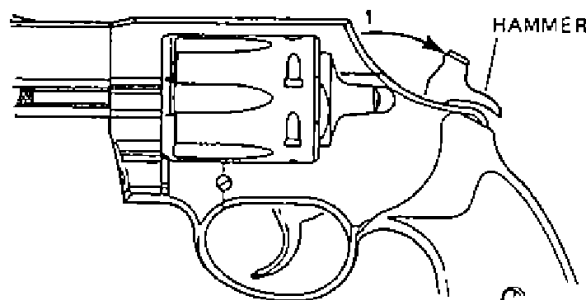

FIGURE 5-COCKING-SINGLE ACTION
3. (S) 1. *To fire single action*, grasp revolver by its grip, keep fingers away from trigger and draw hammer fully back (about an inch) to the cocked position where it will be held to the rear (See Figure 5). Remove thumb from hammer spur.